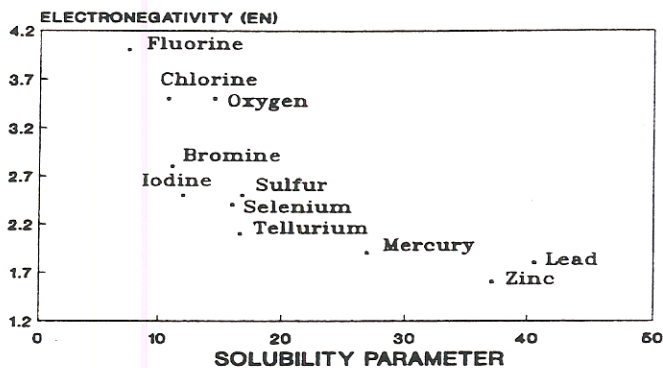

Figure 2. Electronegativity, the source of "stickiness," plotted versus solubility parameter
The cohesive energy of ingredients is measured by the solubility parameter (δ). It is the source of such properties as viscosity, adhesion, miscibility and even the boiling point. Cohesive energy is simply an attractive force that is generated inside molecular particles of all ingredients. Some, like water, have more; some have less, like oil. We call highly cohesive ingredients "polar;" those less cohesive are oily or "nonpolar." The stickiness of molecules comes directly from the electronegativity of the atoms that make up the molecules.³ This relationship is shown in Figure 2, which compares the electronegativity numbers (EN) of Linus Pauling⁴ and the solubility parameters (δ) of Joel Hildebrand.⁵